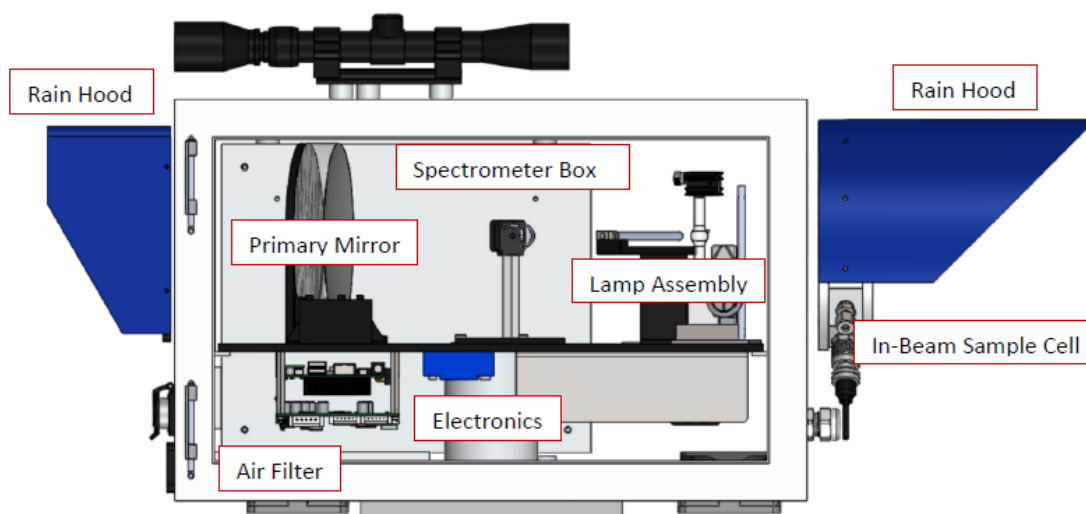

Figure 1. Schematic of the monostatic UV Sentry UV-DOAS analyzer.
The CEREX UV Sentry ultraviolet differential absorption spectrometer (UV-DOAS, shown in Figure 1) is an instrument that is used to detect BTEX, SO₂, NO₂, and a number of other gases in the ultraviolet (UV) region of the electromagnetic spectrum. The instrument consists of a Xenon light source and several optical elements, including a spectrometer. UV-DOAS instruments may be configured so that the spectrometer and source are in one location (monostatic) or at opposite ends of the path (bistatic). For a monostatic configuration, the light from the light source is collimated with the primary mirror and directed along a path length of about 500 m. At the other end of the path is an array of corner-cube reflectors called retroreflectors that direct the light directly back into the analyzer where the light is dispersed and measured using a spectrometer. The working range of the spectrometer is from about 200 to 400 nm. This document addresses the routine operations and maintenance procedures for the CEREX Monitoring Solutions UV Sentry units. The procedure is intended to guide the field technician in ensuring and verifying that the equipment is performing to expectations. As required, hard copies of this procedure and the associated test forms will be kept on site and a copy of the test form showing the results will be sent to the Refinery Project Manager upon completion of the test procedure.